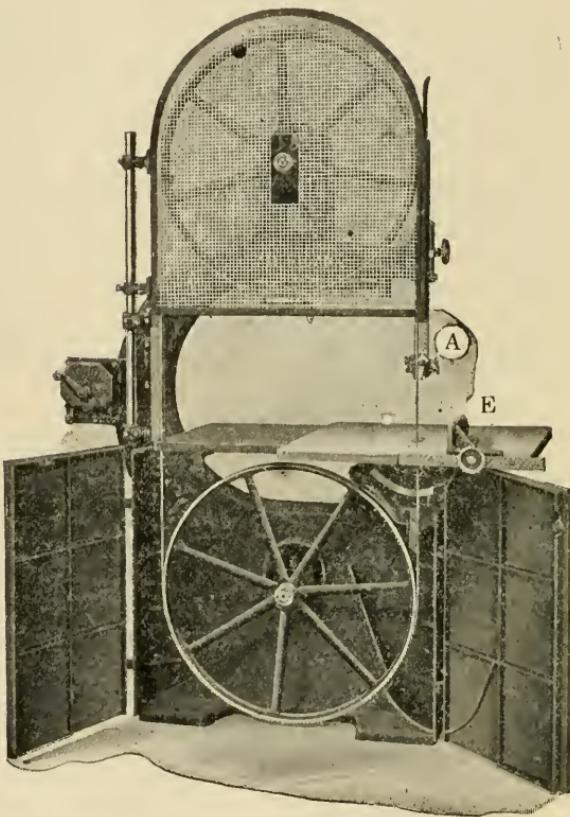

FIG. 36 — BAND SAWS "A" GUIDE POST "E"
36. General -- Band saws are made in right and left hand types, the right hand being more universal. Figs. 36 and 39 show right hand machines which are properly guarded. Instead of the wire door as the top some machines have a wooden frame of panel construction. The bottom guard in this case consists of two cast iron doors. Sometimes the lower guard is made of panel doors, or, wire frames similar to the guard on the top of the wheel. The guide post, shown at "A" in Fig. 36 is a very essential part of the machine. The Mohawk Dutchman saw guide which
There are times when the band saw is used in ripping to width. For work of this kind, a fence such as is shown at "E" in Fig. 36 is necessary. Ripping to width on a band saw is not accurate, however, like ripping on the saw table.
38. Operation-- The guide "A" in Fig. 36 should be kept as low as possible at all times, when operating the band saw. When sawing, keep in front of the saw and do not step around in line with the direction of travel of the saw wheel. Should the saw break, there is no danger if the machine is properly guarded, and you remain at